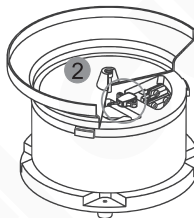

Fig. 2.3.2
- Method 2: As shown in Fig. 2.3.2